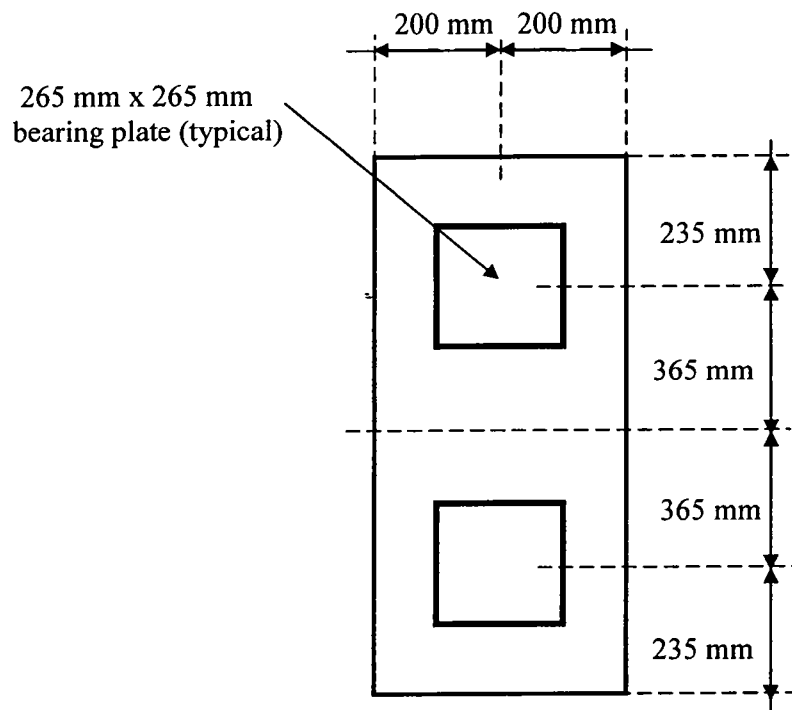

Figure 1 : Front View of End Block
- 1(a) A rectangular prestressed beam with double tendon is anchored at end block as shown in Figure 1. Design and provide the reinforcement detailing for the end block if the jacking force at transfer (P_o) is 1860 kN.